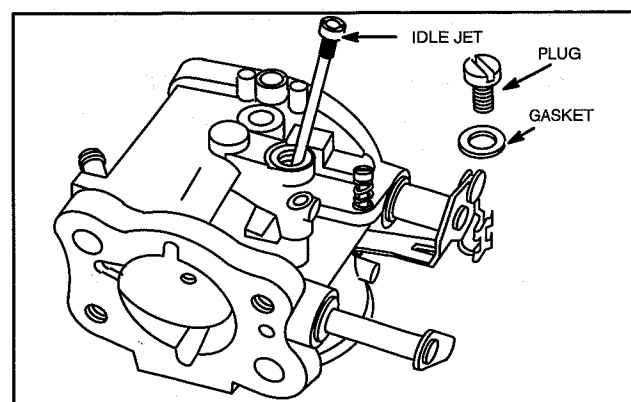

Fig. 22 – Install Idle Jet
17. Install idle jet, plug and gasket, Fig. 22.